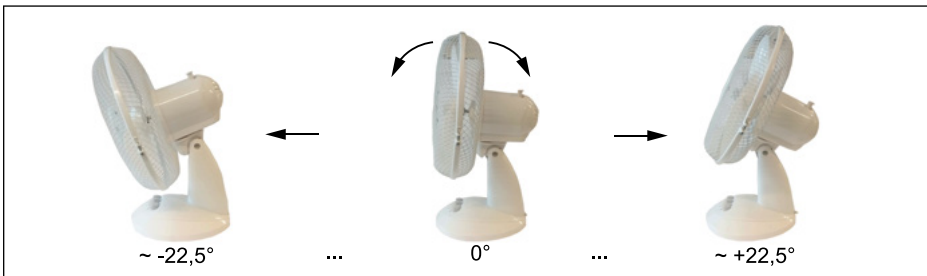

Fig. 18: Adjusting the angle of inclination
1. Hold the fan only by the plinth (18, fig. 18) and place it on a dust-free, stable and horizontal surface.